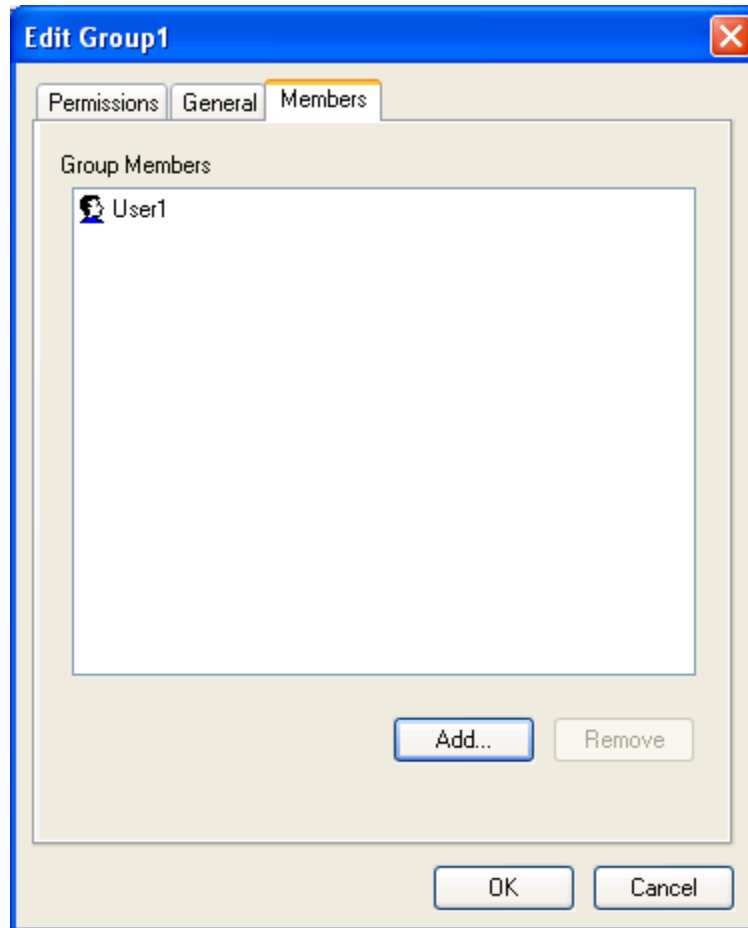

Figure 74 - Edit <Groupname> Window (Members Tab)
On the **Members** tab (Figure 74), the users that are part of the current group are defined. By default, the **Group Members** screen section is empty. In Figure 74, **User1** has been added to **Group1**.
3. Click on the **OK** button. The selected user or users appear in the **Group Members** screen section on the **Members** tab (Figure 74).